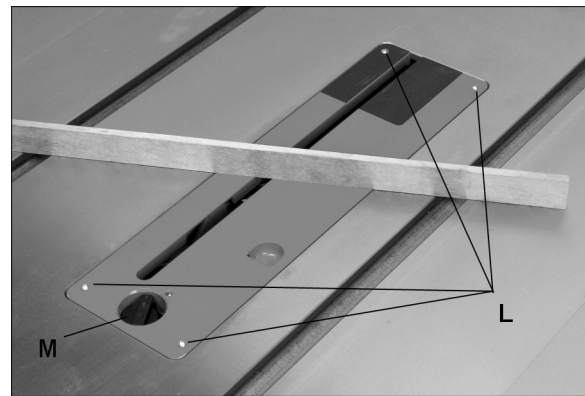

Figure 6-14
3. Remove table insert by rotating locking knob (shown at M, Figure 6-14) and lift up insert using finger hole.
See Figure 6-14.